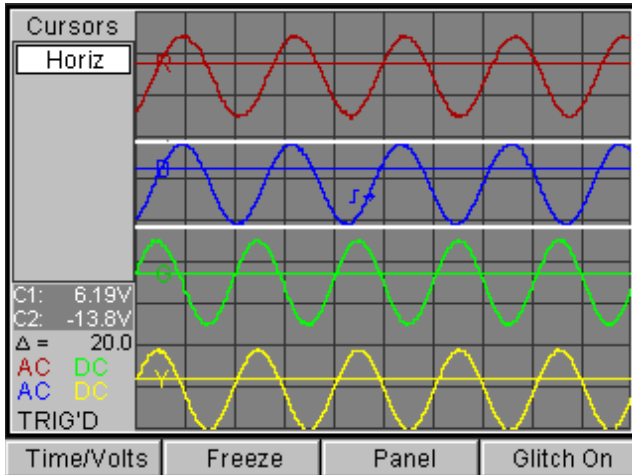

Figure 7.32: Lab Scope Screen, DMM Off - Cursors Setup
- 4 Change the **Cursor** setting by pressing either the **Left** or **Right Direction** key until either Off, Horizontal, or Vertical appears in the field, as shown in Figure 7.32.
- 7 Press the **Down Direction** key to select the C1 field. This highlights the C1 field and the cursor in the graph, as shown in Figure 7.32.